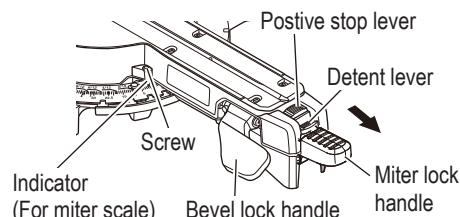

Fig. 19
The slide compound miter saw scale can be easily read, showing miter angles from 0° to 45° to the left and right. The miter saw table has nine of the most common angle settings with positive stops at 0°, 15°, 22.5°, 31.5°, and 45°. These positive stops position the blade at the desired angle quickly and accurately. Follow the process below for quickest and most accurate adjustments. (Fig. 19)
- (1) Push up the miter lock handle to release the turntable.
- (2) Push down the positive stop lever until the detent lever catches on it to release the "positive stop".
- (3) Rotate the turntable and set the indicator to line up with the desired angle of the miter scale. At this time, when using the positive stop function, pull the detent lever in the direction of the arrow near the desired angle as shown in Fig. 19, release the detent lever, and move the turntable to secure it in place at the desired angle via the positive stop function. (0°, 15°, 22.5°, 31.6°, and 45°)
- (4) Push down the miter lock handle to secure the turntable in place.
Detent lever (Fig. 19)